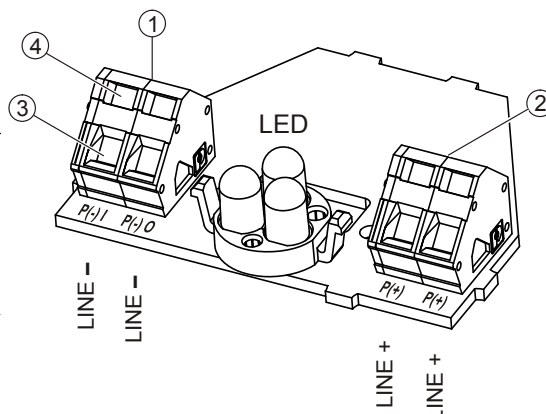
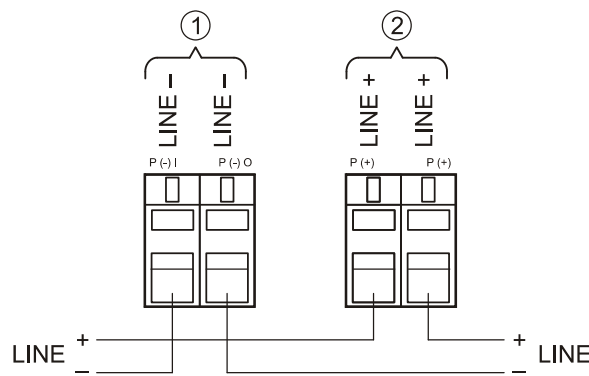

Fig. 3
Fig. 6
3. Connect the alarm indicator in accordance with the connection diagram (Fig. 3, Fig. 6).
4. Connect the alarm indicator in accordance with the connection diagram (Fig. 3, Fig. 6).